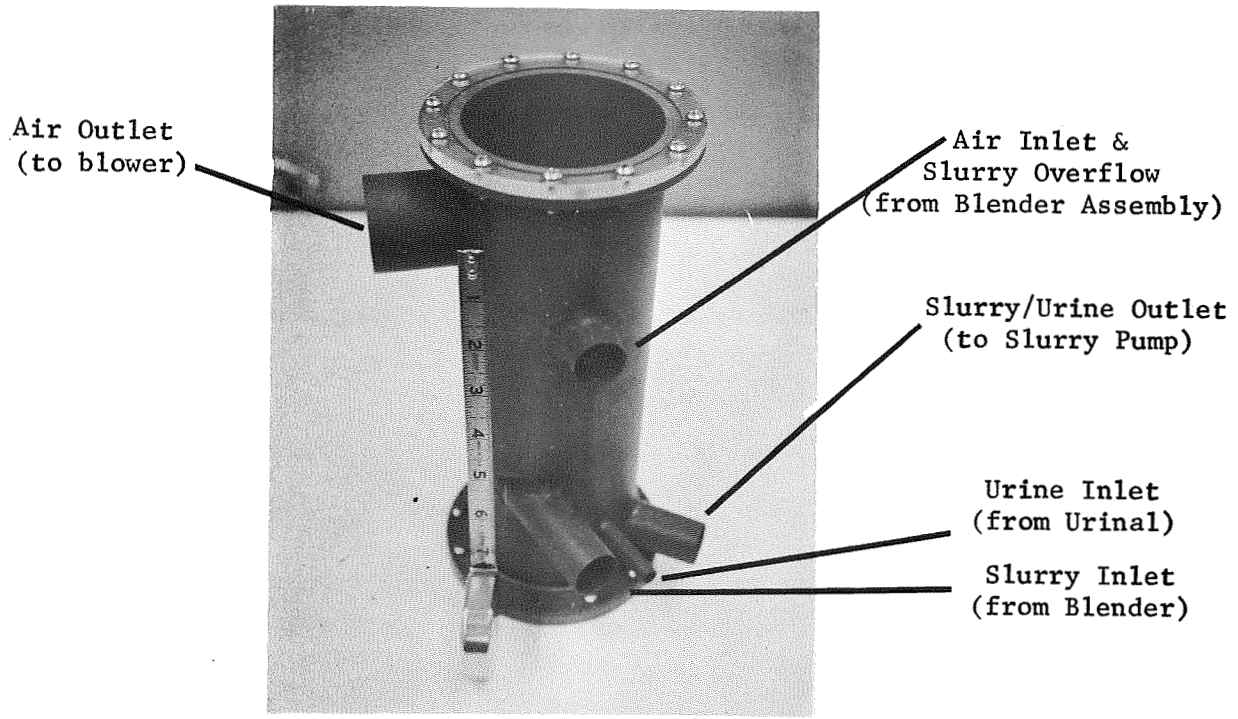

FIGURE 12. PHASE SEPARATOR
4.4 Phase Separator (See Figure 12)